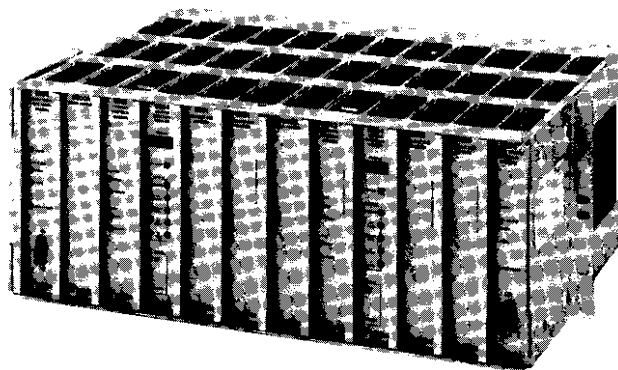

figure 1. 251 24-Channel Digital Echo Canceller System
1.01 The 251 24-Channel Digital Echo Canceller System (figure 1) is an adaptive, split-type echo-control system that directly interfaces 1.544-megabit-per-second digital carrier facilities (commonly called T1 facilities) at the DS-1 level. The 251 System provides individual echo control for all 24 of a T1 facility's voice-frequency (VF) channel circuits and performs comprehensive self-tests on its cancellation circuitry when channels are idle. The 251 can operate as a stand-alone system by monitoring the signaling